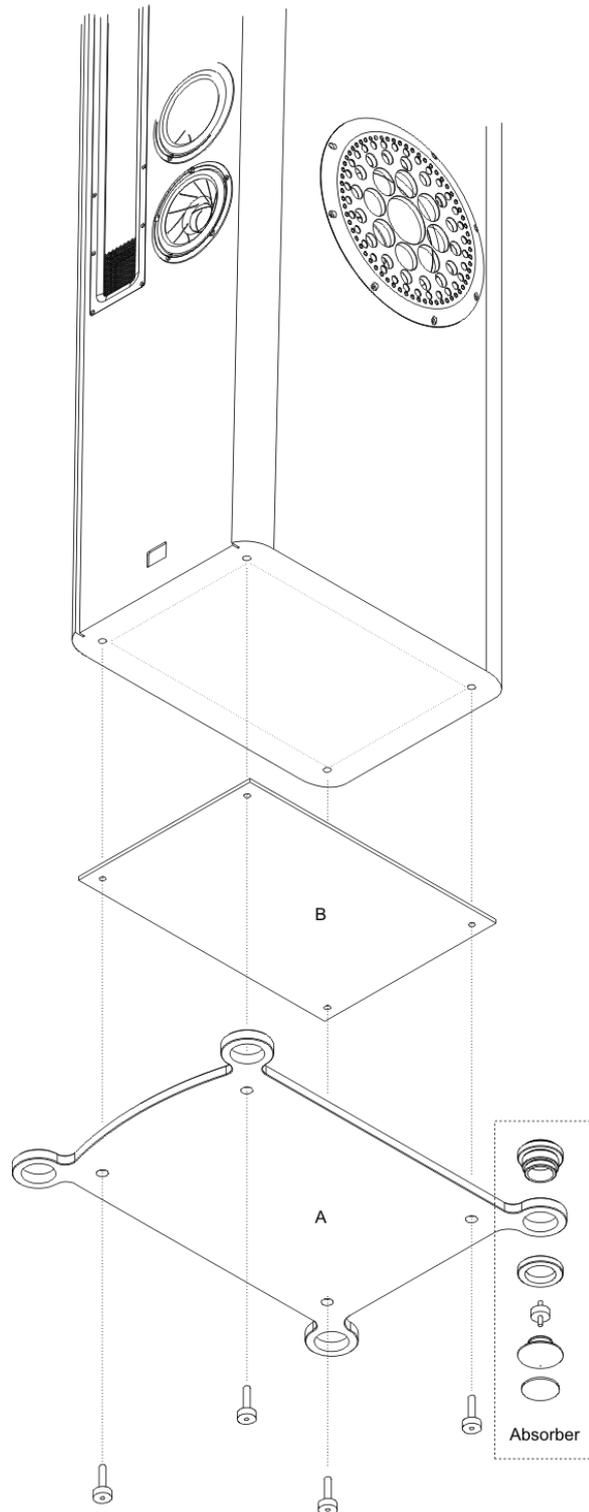

Fig. 2
- Lay the plinth plate on a soft surface, in the position shown in Fig. 2. Note that the screw-head recesses in the underside of the base plate must face away from the loudspeaker cabinet, with the rounded side of the plate facing up (towards the baffle).
- Now slip the screws into the plinth plate (A) from the underside, and fit the spacer plate (B) onto them on the top of the plinth. We recommend that one person should raise the plinth plate and hold it in line with the threaded sleeves, while a second person fits the socket-head screws. Tighten the screws by hand.